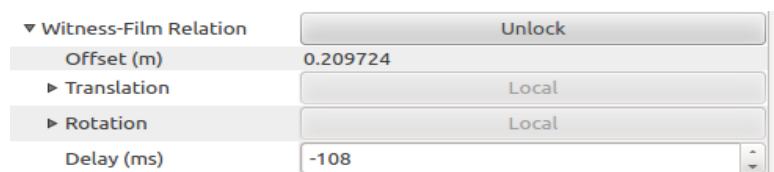

Figure 19
- The user can also manually adjust the delay value in the *system status* tree under *Witness-Film Relation* > *Delay* (Figure 19)